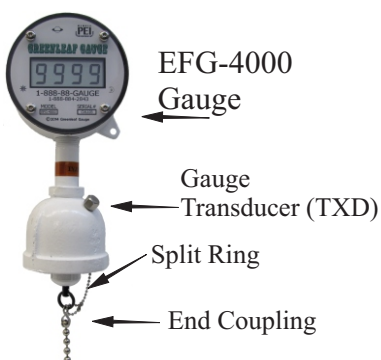

Figure 2
3. To connect the probe to the TXD, simply snap the free end of the chain on the top of the probe into the end coupling connected to the split ring located at the bottom of the TXD. (See **Figure 2**) The bead **MUST** snap in place or it is not seated correctly. Once this has been done, screw the gauge/TXD combo onto the pipe nipple. Care must be taken to ensure that you do not cross thread the gauge as you screw it onto the nipple. **When the tank is empty the probe should never touch the bottom of the tank.** Refer to **QUICK START GUIDE** included with the gauge before installation to know the correct measurements you need.